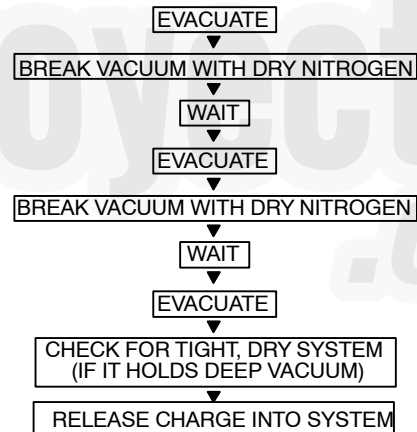

Fig. 15 — Triple Evacuation Method
Refer to Fig. 15 and proceed as follows:
5. Repeat this procedure as indicated in Fig. 15. The system will then be free of any contaminants and water vapor.